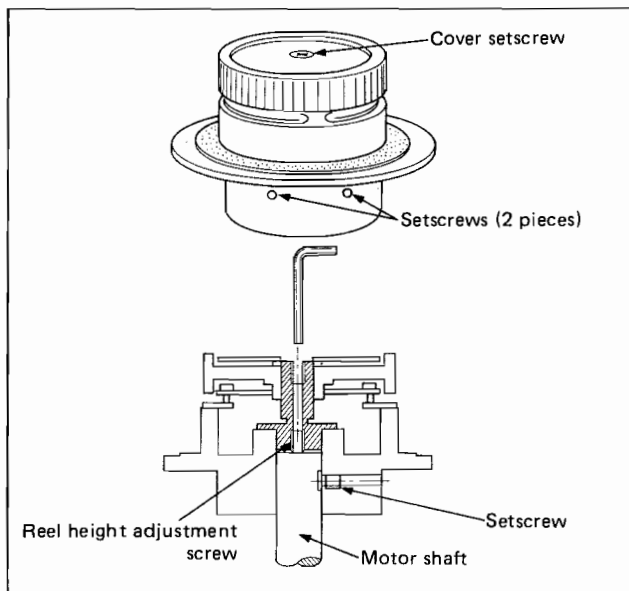

Fig. 5-17
2. Remove the cover setscrew, and then cause the reel height adjustment screw to go up or down by using the hexagonal head wrench. (Fig. 5-17)
- ① For $X\mu\text{m}$ of correction amount, turn the head adjusting screws ① and ② (M3) by the same angle with a fine-adjusting screwdriver. (Refer to Fig. 5-17.)